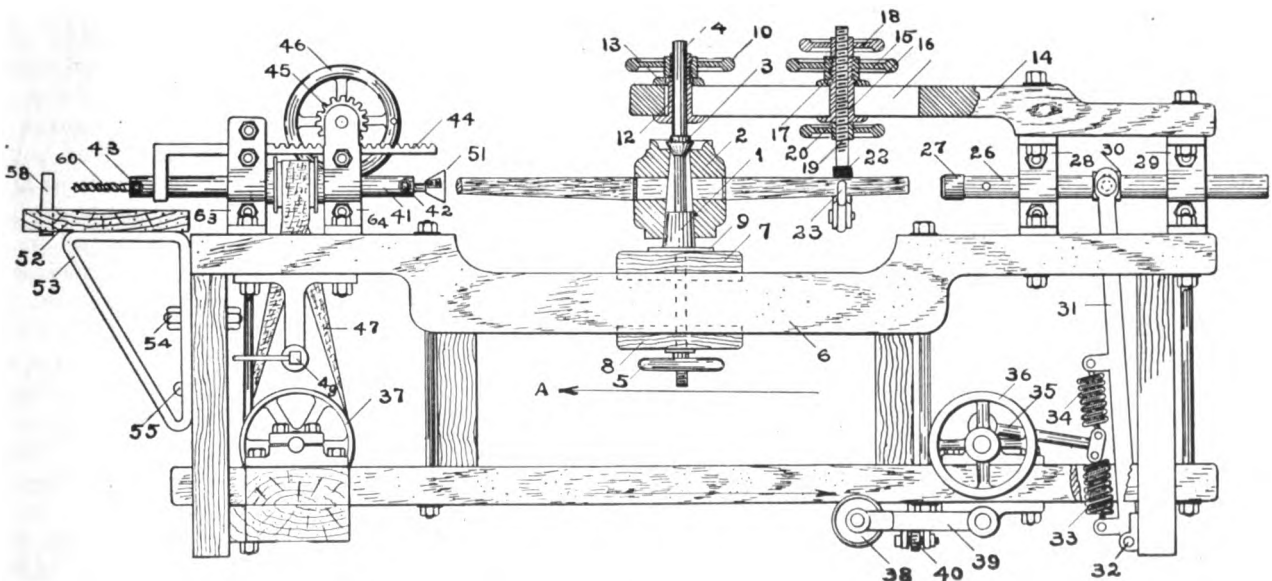

FIG. 1.—A PRACTICAL WHEEL-BUILDING MACHINE THAT COMBINES SEVERAL LABOR-SAVING FEATURES
**Operation:** Select a bushing, 1, that fits the hub or wheel, 2 (see Fig. 1). Next, place the wheel or hub in the position shown, and put the cone-shaped bushing, 3, in place; the rod, 4, may then be put in position. The rod, 4, has a shoulder by means of which with the hand wheel, 5, the wheel or hub is clamped solidly upon the frame, 6. This operation clamps the sliding parts, 7 and 8, at the same time. The wheel or hub may be adjusted to proper height by thin wood or metal parts, 9. The pieces, 9, are slotted to allow them to be slipped in place under the wheel. When driving the spokes it is necessary to secure the top end of rod, 4. This may be done in the following manner: Screw the hand wheel, 10, downward, which clamps the parts, 12 and 13, solidly to the beam, 14. The position of the wheel may be adjusted easily as shown.
the arrow A (Fig. 1). This belt runs slack when idle and may be tightened by the idler pulley, 38, carried by the arm, 39. The idler pulley, 38, may be raised and lowered by the lever, 40. The pulley, 38, and parts are to be heavy enough to hold the lever, 40, in a raised position, so that it is only necessary to press with the foot upon the lever, 40, to put the driver in action.